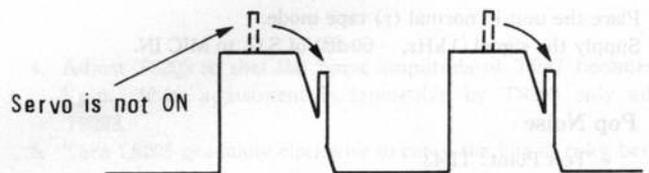

Fig. 13
8. Fully turn R1120 clockwise, and then gradually return it counterclockwise to set it just after the pulse of TP24C locks on trapezoid waveform of TP25C as shown in Fig. 13.